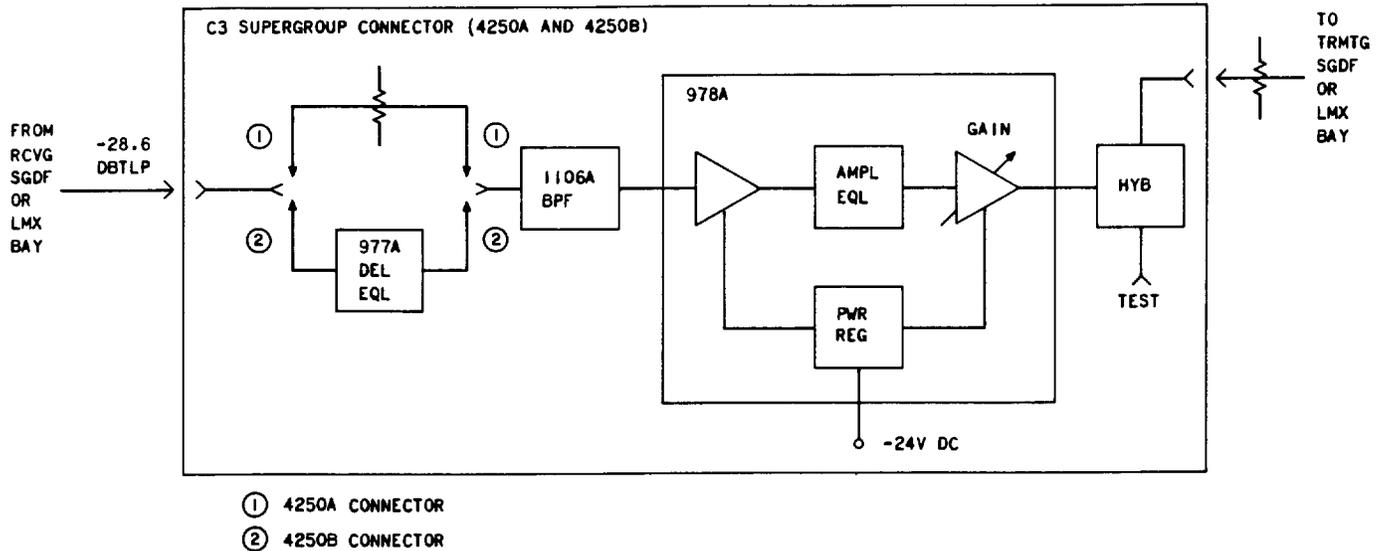

Fig. 2—C3 Supergroup Connector, Simplified Diagram
**2.01** The two configurations of the C3 supergroup connector are shown in simplified schematic form in Fig. 2. The 4250A configuration consists of a pad, a bandpass filter (which includes 308- and 556-kHz blocking sections), a gain and amplitude equalization circuit, and a hybrid network. The 4250B connector has a delay equalizer instead of the pad, but otherwise is identical.
**2.05** The power regulator (see Fig. 2) included in the C3 plug-in unit and a passive filter in the associated bay fuse panel are interdependent. Together, they provide the battery voltage, regulation, and filtering required by the connector amplifier.
**2.07** The trunk adjust attenuator (see Fig. 2) builds out the transmitting cable loss to a standard value. This enables a specific transmission level at the C3 test jack.